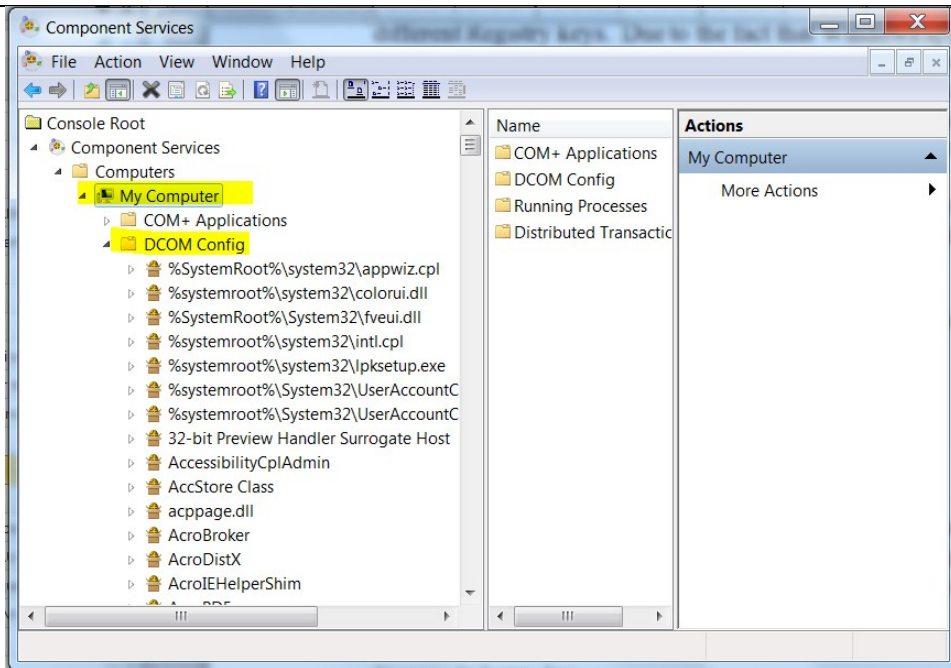

Figure 4.7
Step 8: Under My Computer, open the folder labeled DCOM Config. (see Figure 4.7)